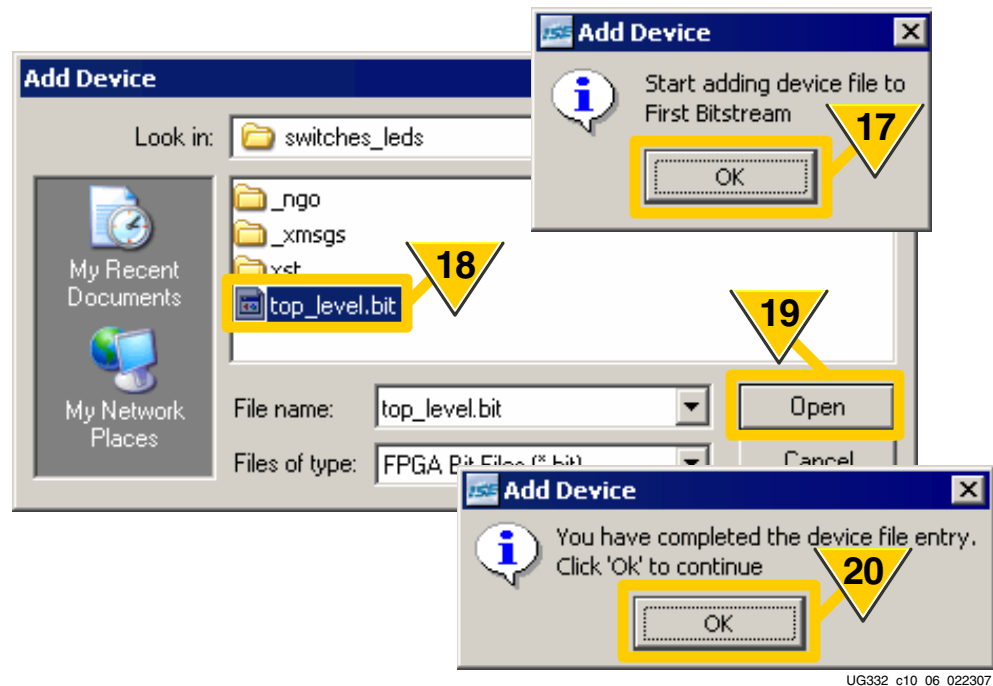

Figure 10-9: Add FPGA Configuration Bitstream File(s)
- As shown in Figure 10-9, click OK to start adding FPGA configuration bitstreams to the In-System Flash image.